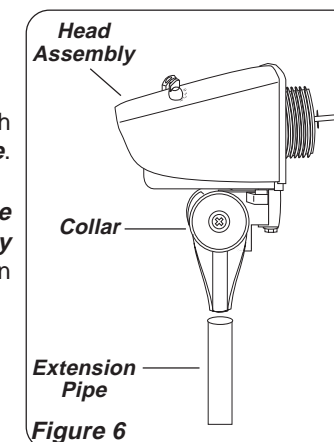

Figure 6
1. Place **Head Assembly** with **Collar** onto **Extension Pipe**. (Figure 6)